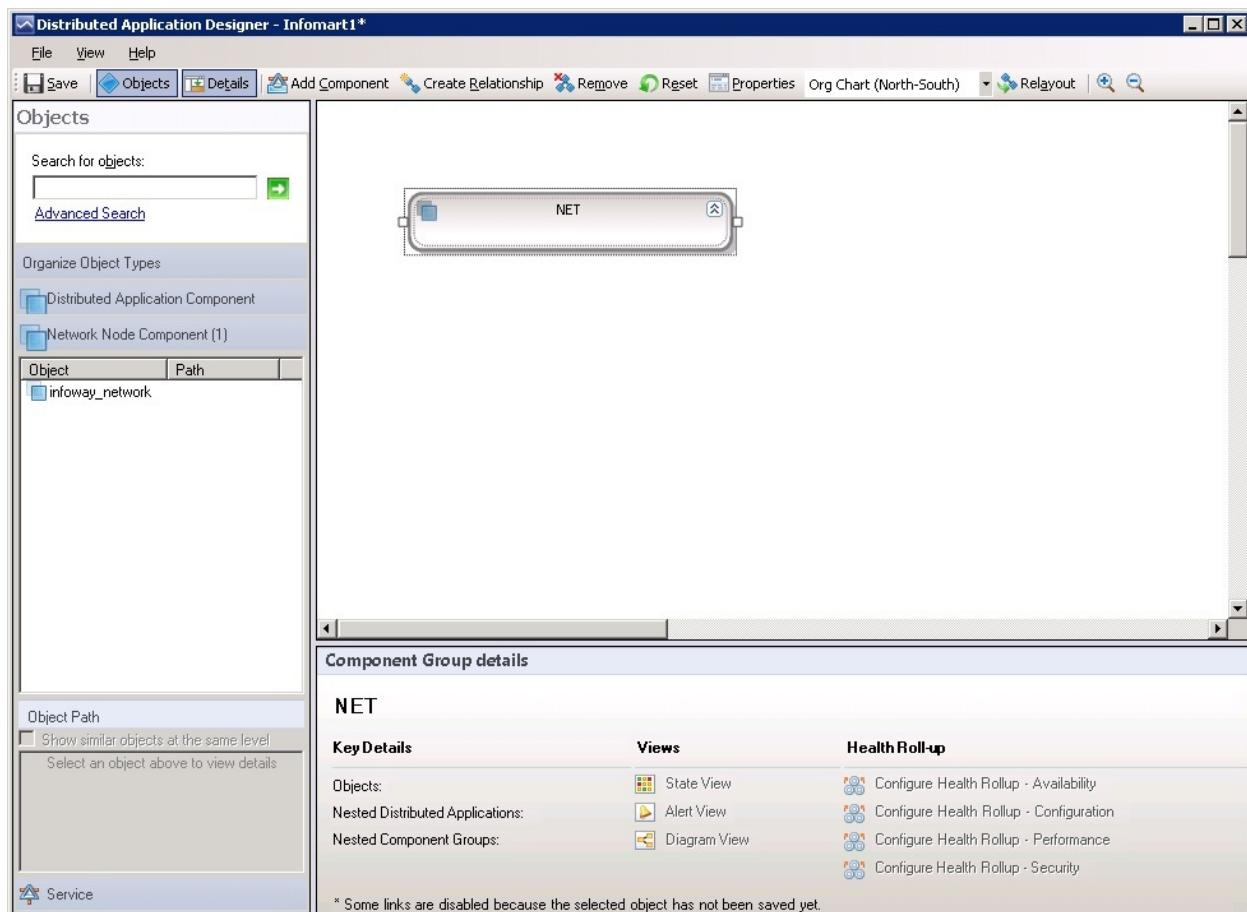
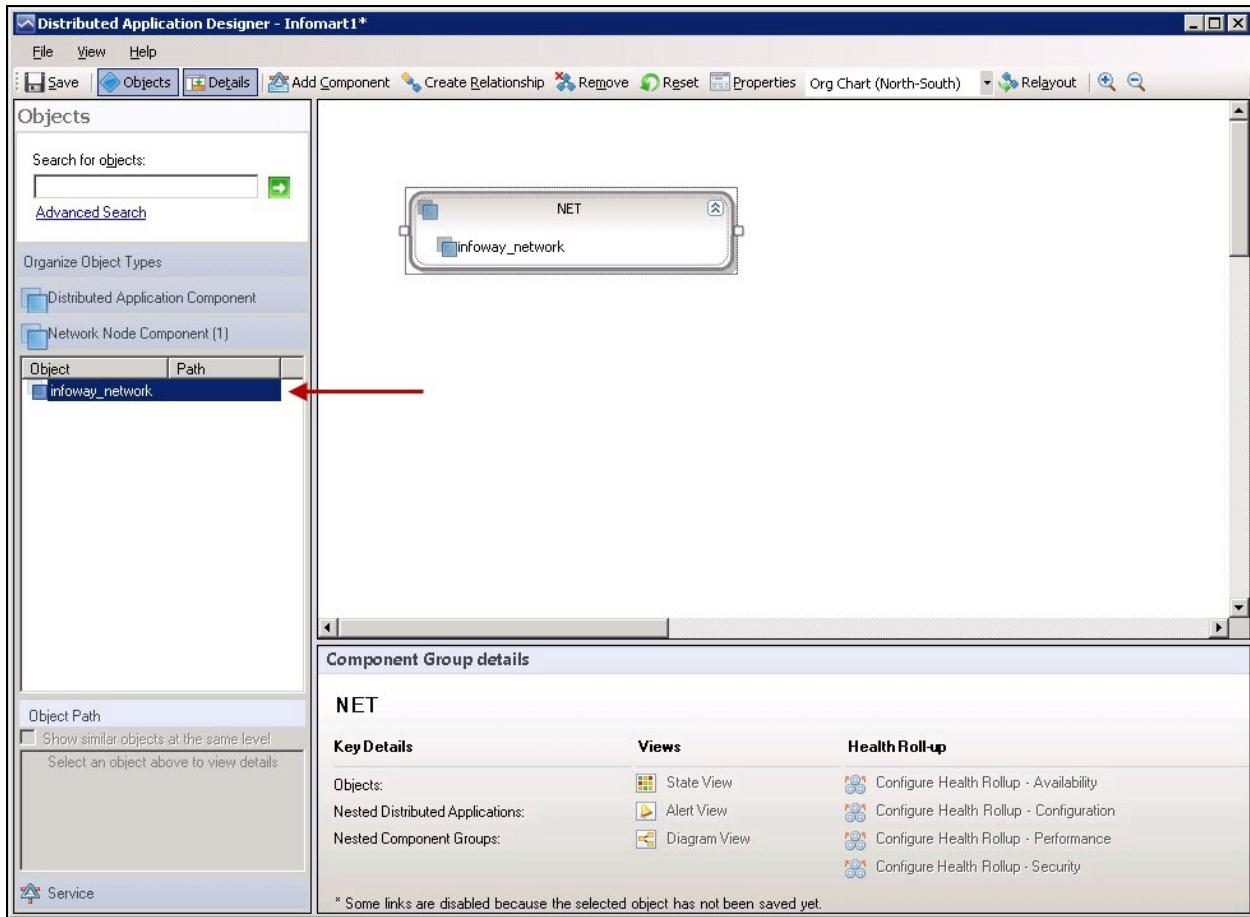
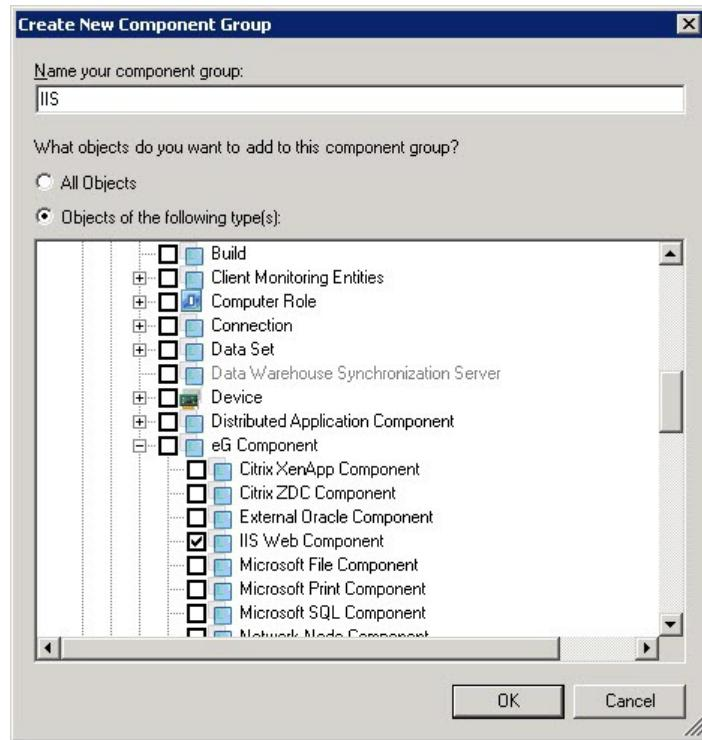

Figure 4.31: The newly added Network Node Component group appearing in the Designer window
Figure 4.32: Adding the *infoway_network* component to the NET component group you created
Figure 4.33: Creating an IIS Web Component group
7. This will invoke Figure 4.31. In the **Distributed Application Designer** window of Figure 4.31, you will find a ‘box’ representing the new **.NET** component group that you just added.
8. Next, click on the **Network Node Component** section in the left panel of Figure 4.31 (as indicated), to view all the eG-managed network nodes. From the list that appears beneath, select the *infoway_network* component, drag it, and drop it into the **.NET** box in the right panel (see Figure 4.32).
- With that, the **Network Node Component** group has been created, and the *infoway_network* component has been added to it. The next step is to create the IIS web server component and configure a relationship between the network node and the web server. For this, click on the **Add Component** button in Figure 4.32 again. When the **Create New Component Group** dialog box of Figure 4.33 appears, name the new component group as **IIS**, select the **Object of the following type(s)** option, scroll down the object type list, expand the **eG Component** node, and select the **IIS Web Component** group.